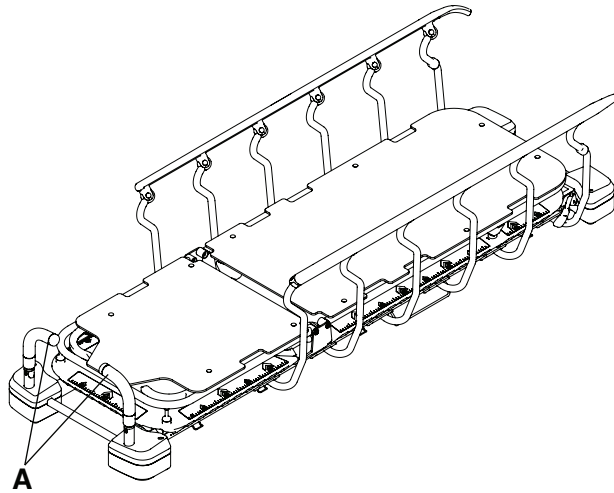

Figure 6 – Positioning the head end push handles
2. Pivot the head end push handles (A) to the use position (Figure 6).